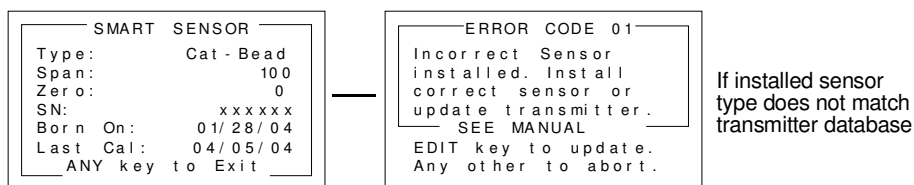

Figure 6-2: SMART SENSOR Recognition Screen
- Check the SPAN GAS VALUE setting and make sure it matches the calibration gas. (See Fig. 6-2)
The System Config group consists of two pages of menus as shown in Figure 6-2. Each item's description follows in this section.